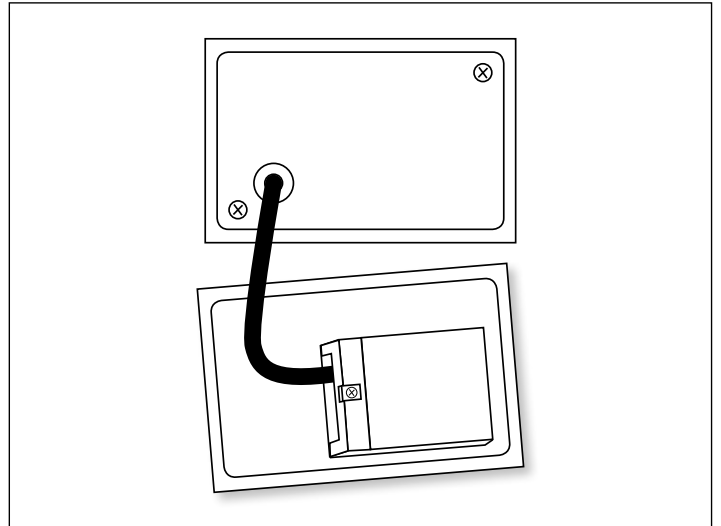

Figure 4.
- Connect the active and neutral supply wires to the driver terminal. Ensure double-insulated cable is brought in to the LED driver housing. Refer to Fig. 4.